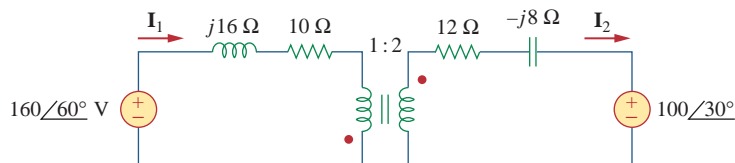

Figure 13.111
13.46 (a) Find I_1 and I_2 in the circuit of Fig. 13.111 below.